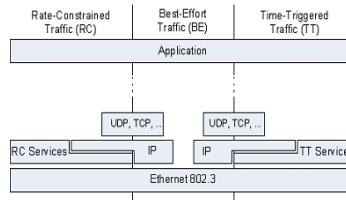

Fig. 2: Relation of TTEthernet to existing communication standards
As TTEthernet supports communication among applications with various real-time and safety requirements over a network, three different traffic types are provided: time-triggered (TT) traffic, rate-constrained (RC) traffic, and best-effort (BE) traffic. If required, the corresponding traffic type of a message can be identified based on a message's Ethernet Destination address. The relation of the TTEthernet traffic types to existing standards is depicted in Figure 2.